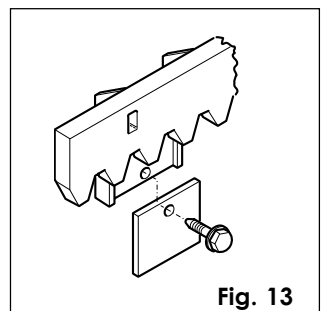

Fig. 13
4.4.3. NYLON RACK TO BE SCREWED (Fig.13)